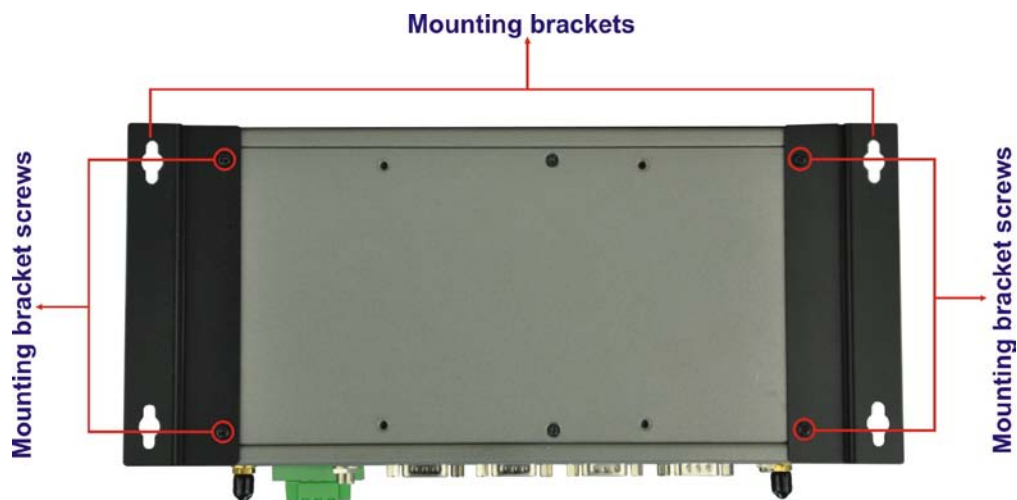

Figure 3-5: Mounting Bracket Retention Screws
- Step 3:** Secure the brackets to the system by inserting two retention screws into each bracket as illustrated in **Figure 3-5**.
To have the best system heat dissipation, please make sure to face the I/O panel downward (**Figure 3-5**) when mounting the system.